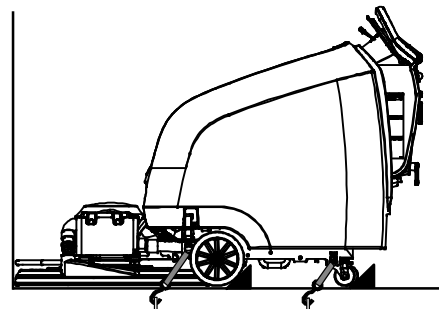

FIG. 54
3. Once loaded, position the front of the machine up against the front of the trailer or truck. Lower the burnishing head to the floor and turn the key off (Figure 54).
4. Place a block behind each wheel (Figure 54).
5. Using tie-down straps, secure the front and rear of the machine using the four tie-down brackets located on the machine frame (Figure 54). It may be necessary to install tie-down brackets to the floor of your trailer or truck. Do not use the burnishing head lift pedal as a tie down.